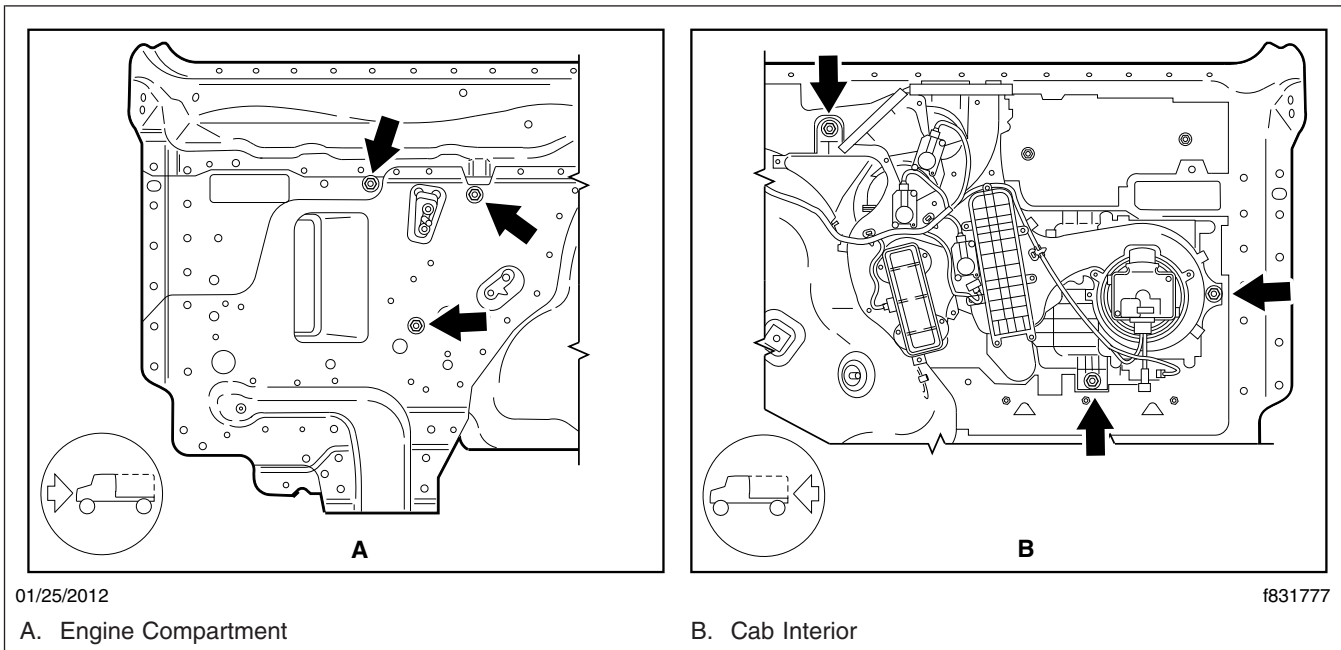

Fig. 11, HVAC Mounting Nut Locations
27. Remove the six nuts (three inside and three outside) that hold the assembly in position on the frontwall. See Fig. 11.